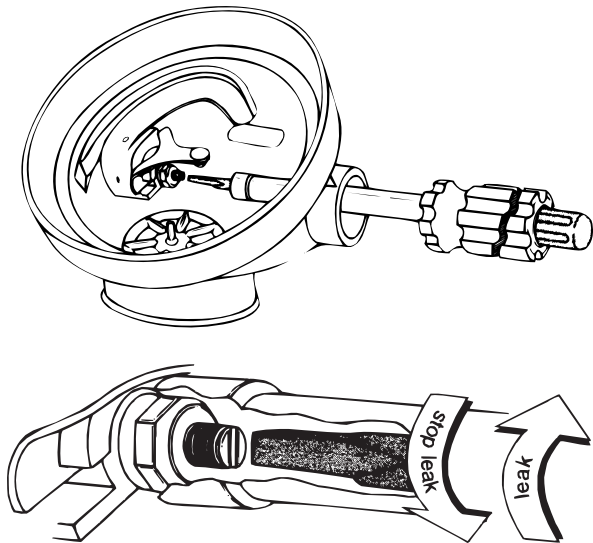

Figure 10
Insert the ¼" nut driver portion of the Lever Height Adjustment Tool (LHAT) through the open port and hold the locknut. Insert the screwdriver portion of the LHAT tool through the center of the nutdriver and insert it into the end of the disc retainer. While holding the disc retainer still with the screwdriver, turn the nutdriver clockwise to correct the lever height or eliminate excessive "free-play". (See Figure 10)
Remove the port plug (item 18). Insert the ¼" nut driver portion of the Lever Height Adjustment Tool (LHAT) through the open port and hold the locknut. Insert the screwdriver portion of the LHAT tool through the center of the nutdriver and insert it into the end of the disc retainer. While holding the disc retainer still with the the screwdriver, turn the nutdriver counterclockwise. (See Figure 10.) Adjust only far enough to correct the leakage problem. Reinstall the port plug (18)